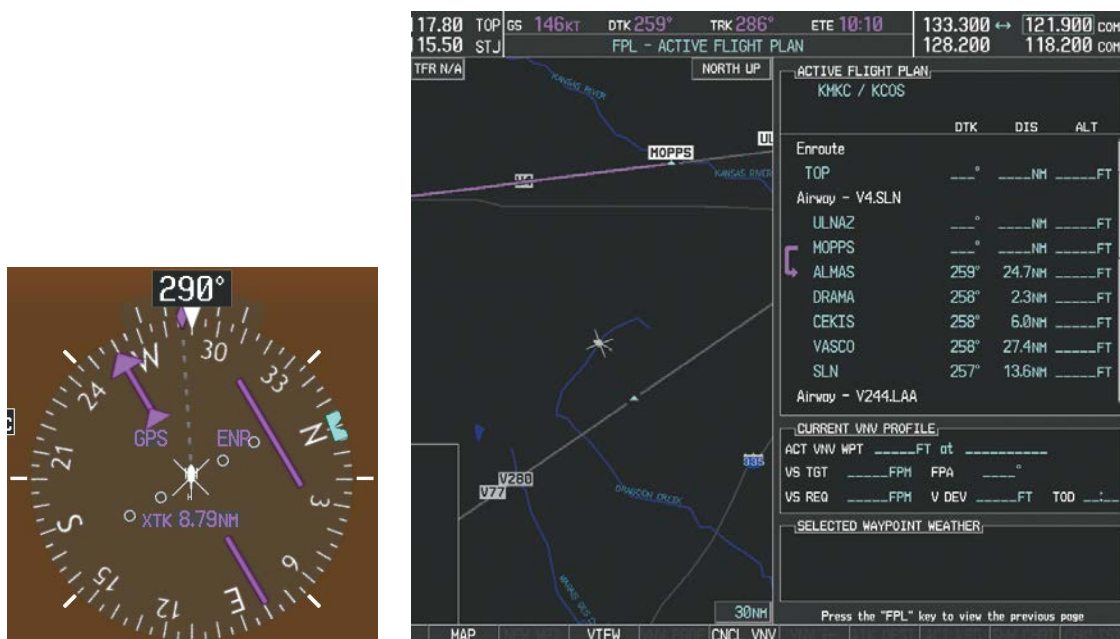

Figure 5-120 V4 Now Active Leg
- d) Verify the displayed leg is the desired leg and press the **ENT** Key. Note in Figure 5-120, the magenta arrow in the flight plan window and magenta line on the map indicating V4 is now the active flight plan leg. Note the phase of flight remained in Terminal (TERM) mode up to this point because a departure leg was active. Since a leg after the departure is now active, the current CDI flight phase is ENR (Enroute) and CDI scaling has changed to 2.0 nm.